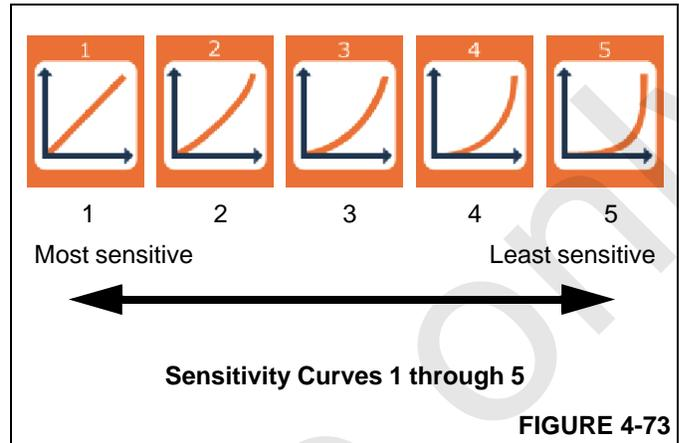

FIGURE 4-73
Sensitivity curve 1 (default) is the most sensitive and sensitivity curve 5 is the least sensitive (Figure 4-73).
3. Using the Jog Dial or the Up/Down Arrow Buttons, select one of the five possible sensitivity curves (Figure 4-73).